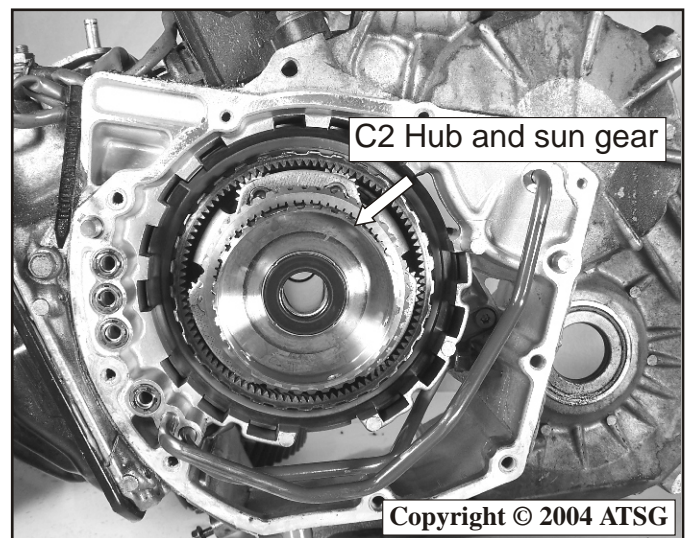

Figure 73
22. Remove the C2 hub and sun gear assembly as shown in Figure 73.